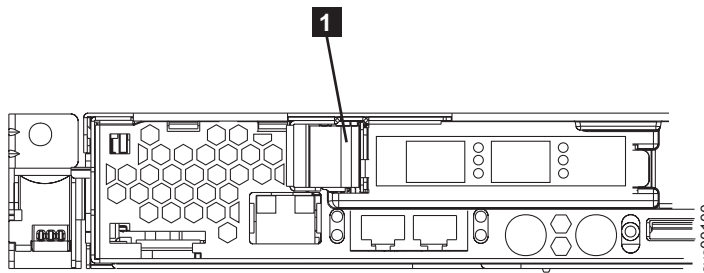

Figure 155. PCI slot 1 card retainer
- a. Pull the blue PCI card retainer **1** from the rear of the node, shown in Figure 155.